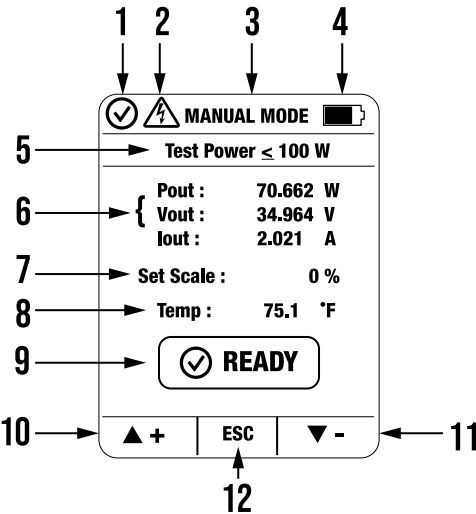

Figure 5.9 Manual mode screen. Each numbered item in the figure is defined below.
The adjustable scale setting (item 7 in Figure 5.9, below), allows you to amplify the measurement from 17.80 to 25.00 % so that the tracer can display an otherwise under-range power signal.
2. Short press the Mode button to enter the manual mode, see Figure 5.9.
5. The 'READY' icon (item 9 in Figure 5.9) changes to an alternating pattern of 'RUNNING' and 'STOP' when the scale setting is increased from zero. This means that the tracer is taking readings (RUNNING) in between periods of rest (STOP).